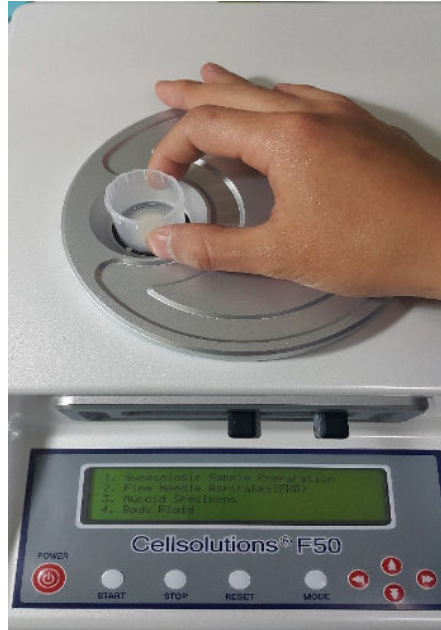

Figure 9-15
- 9.6.1** Check if the filter is turned to the extreme right end. (**Figure 9-15**)